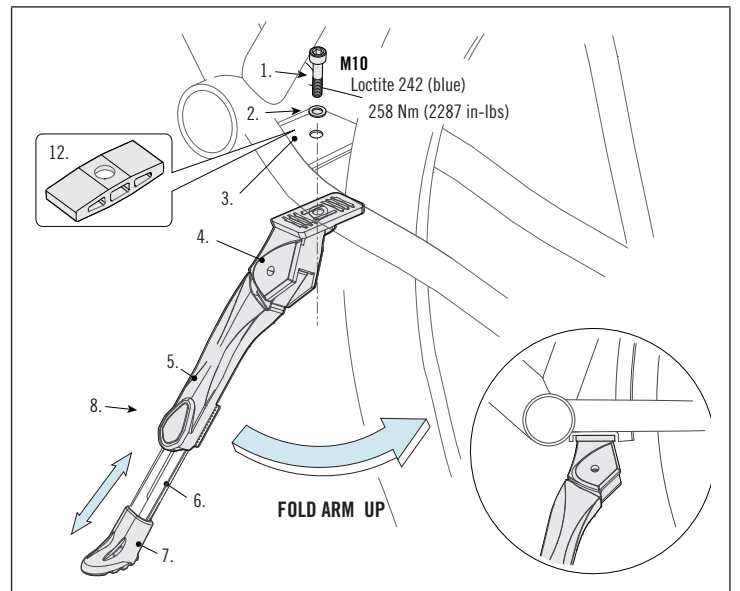

Figure 2.
**Installation & Adjustment :** (Figure 2.) Install the center mount kickstand only onto frames having center mounting bracket (3). Apply a medium strength removable thread locking agent to the bolt (1) threads. Insert the bolt and washer (2) through the bracket and thread into the kickstand (4). Tighten bolt to the specified torque. The length of the folding arm (5) is adjustable. To do it, loosen the set screw (8) with a Phillips screw driver, set extending arm (6) length so the foot (7) is positioned on the ground. Tighten the set screw (8) securely when finished.